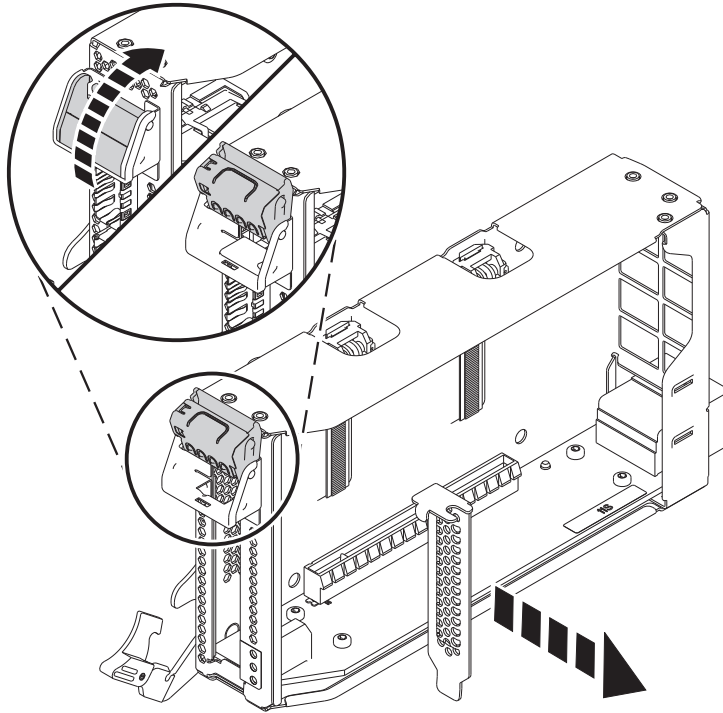

Figure 5. Removing the PCIe adapter filler from the adapter cassette
- c. To unlock the filler tailstock, rotate the latch that is located at the tailstock end of the cassette as shown in Figure 5 on page 6.
- d. Remove the filler tailstock from the cassette, as shown in Figure 5 on page 6.